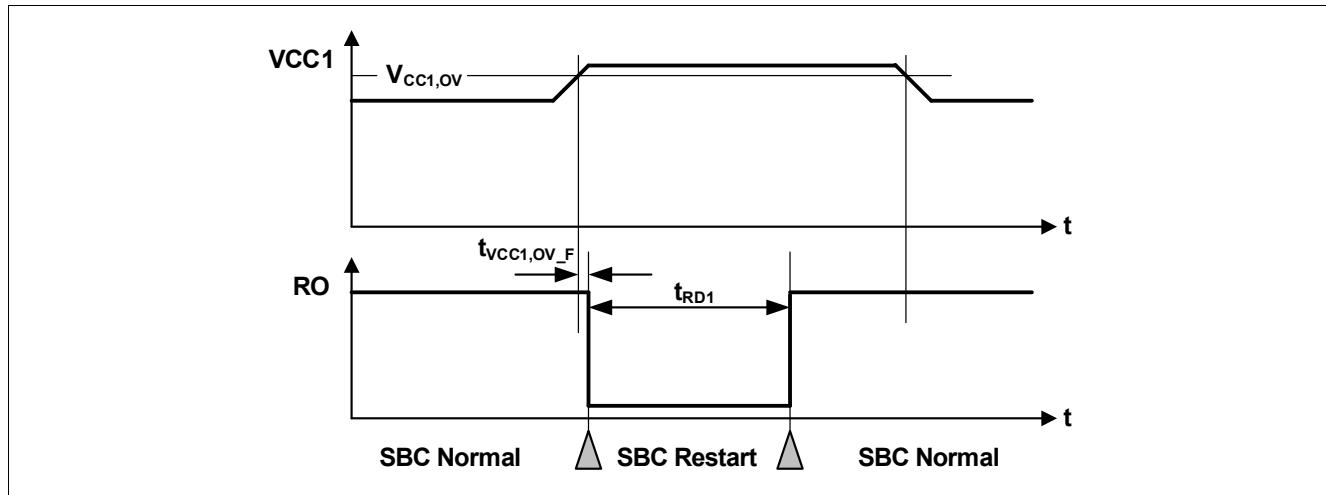

Figure 52 VCC1 Overvoltage Timing Diagram
- If the bit **VCC1_OV_RST** is set and **CFG_P** = '1', then SBC Restart Mode is entered. The FOx outputs are activated. After the reset delay time (t_{RD1}), the SBC Restart Mode is left and SBC Normal Mode is resumed even if the VCC1 overvoltage event is still present (see also Figure 52). The **VCC1_OV_RST** bit is cleared automatically;